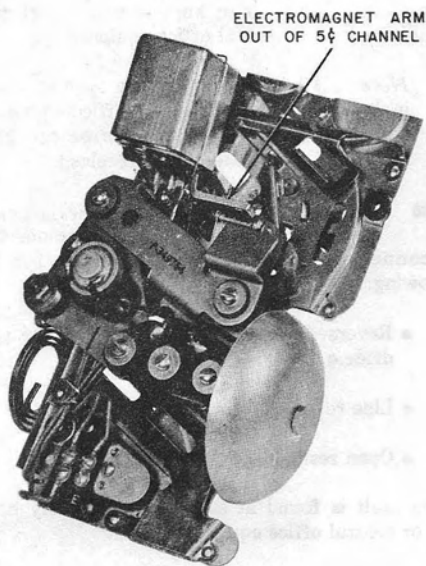

Fig. 64—Dial Postpay Gong, Signal and Chute Assembly
- 6.140** Position electromagnet arm so that end is out of 5-cent channel (see Fig. 64). Insert 529A tool in top of coin hopper to retain test coins.